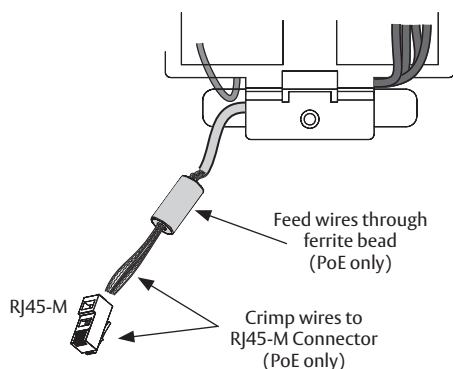

Figure 11-3D
- Separate (untwist) and straighten eight (8) Ethernet wires before carefully feeding through ferrite bead (Figure 11-3D).